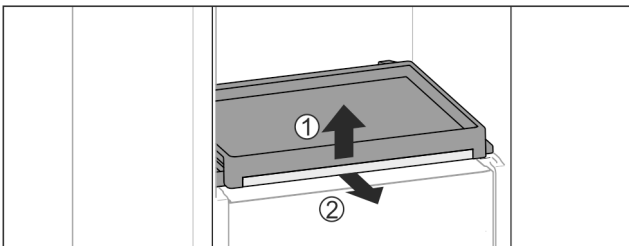

Fig. 173
- ▶ To remove the pull-out board with glass panel: Gently lift the glass panel at the front Fig. 173 (1) and pull out to the front Fig. 173 (2).